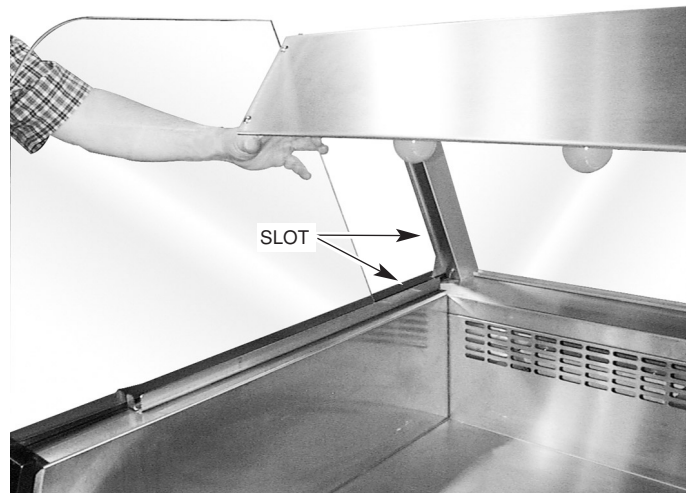

Fig. 1
2. Position the side glass panel in the slot on the LEFT side of the case (Fig. 1).